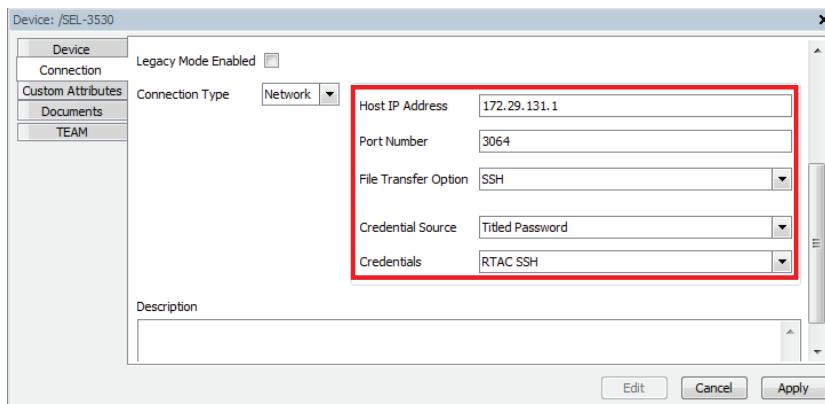

Figure 119 SEL-3530 Connection Parameters
Step 11. Set the **Host IP Address** to that of the RTAC and the **Port Number** to that of the RTAC server (configured in ACSELERATOR RTAC). In this example, set the **Host IP Address** to **172.29.131.1** and the **Port Number** to **3064**. Set the **File Transfer Option** to **SSH**, **Credential Source** to **Titled Password**, and **Credentials** to **RTAC SSH** as shown in *Figure 119*.